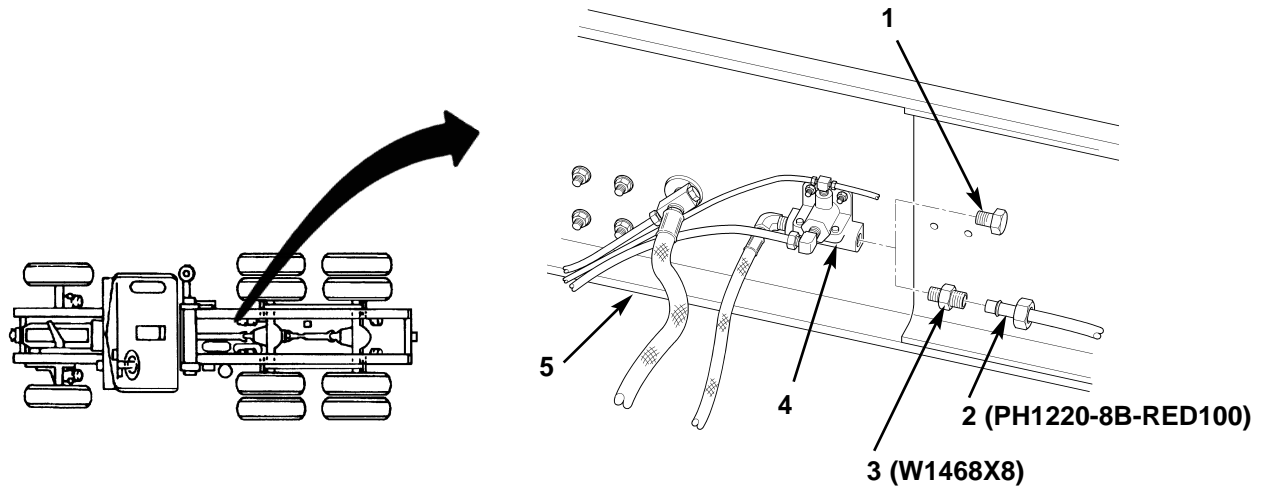

Figure 68. Installing Tube on Quick-Release Valve.
71. Remove plug (figure 68, item 1) from quick-release valve (figure 68, item 4) on right frame rail (figure 68, item 5), and install new adapter (figure 68, item 3) on quick-release valve (figure 68, item 4).
72. Cut and route new piece of 1/2 in. (13 mm) red tubing (figure 68, item 2) 80 in. (203 cm) in length on right frame rail (figure 68, item 5), and connect end of tube (figure 68, item 2) to adapter (figure 68, item 3) on quick-release valve (figure 68, item 4).